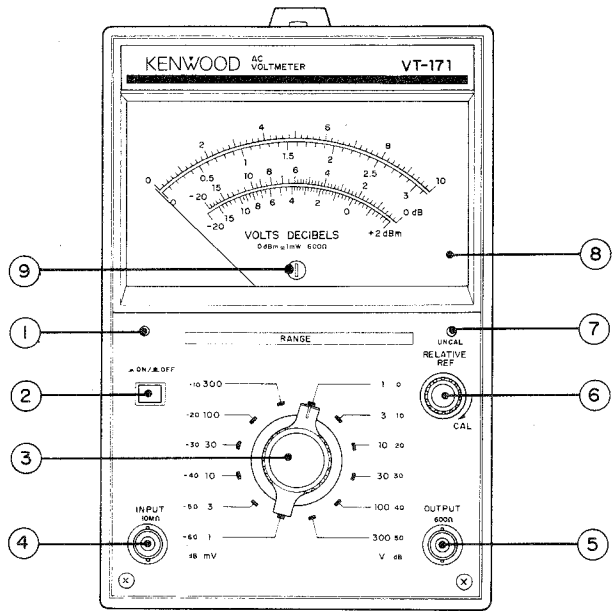

Figure 1—Front Panel View.
1) Front Panel (see Figure 1)
Your VT-171 was precisely preset at the factory. However, it can be aligned through the adjust holes located on the right-hand side with leaving it housed in the casing, if required. In realignment, first adjust the line voltage to the voltage, use a precisely calibrated measuring instruments, and proceed as follows (also, see Figures 1 through 3).